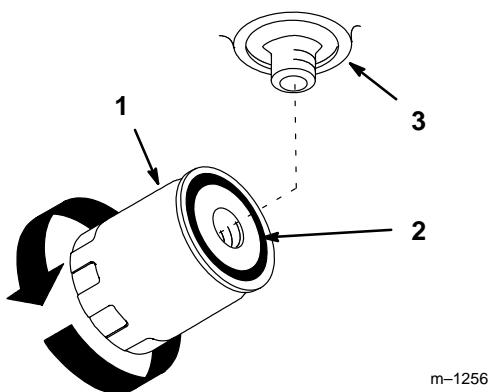

Figure 29
4. Apply a thin coat hydro fluid to the rubber gasket on the replacement filter (Fig. 29).
7. When fluid overflows filter turn the oil filter clockwise until the rubber gasket contacts the filter adapter, then tighten the filter an additional 1/2 turn (Fig. 29).